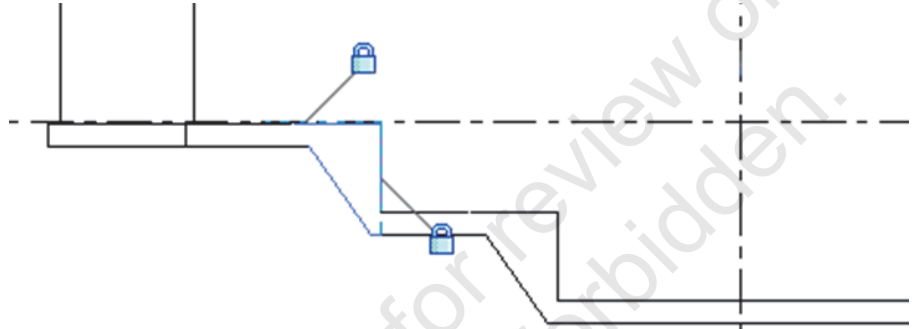

Figure 1–89
- Some custom families have sizing options in either Properties (per instance) or in the Type Properties (as shown in Figure 1–90) so that you can create additional types in various sizes as needed in the project.